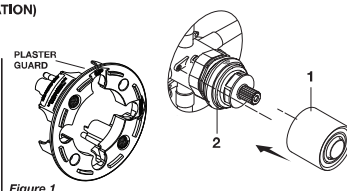

Figure 1.
- Figure 1. Push CAP (1) over VALVE CARTRIDGE (2) until seated against stop.